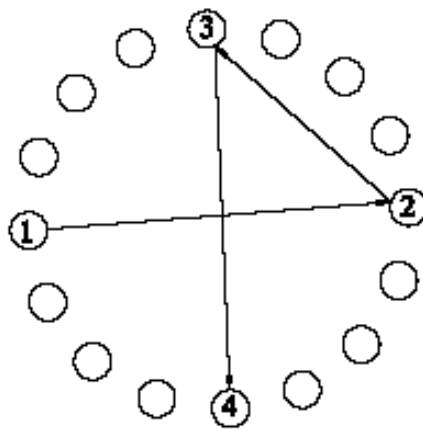

Fig.8. Initial tightening
- A2.1. Tighten the first four nuts in the sequence shown in Fig.8. This helps in correct location of the mating parts. Apply the torque in two stages, as mentioned below.